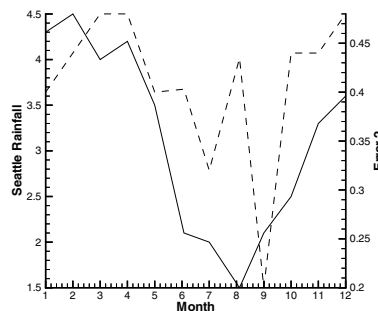

Figure 8-16. An XY Line plot using two Y-axes.
5. Click Which Y-Axis, then choose Y2. The resulting plot shown in Figure 8-16.
the right. Thus, in Figure 8-16, the Seattle rainfall observations are shown along axis Y1 at the left of the axis grid area, while the error observations are shown along Y2 at the right.